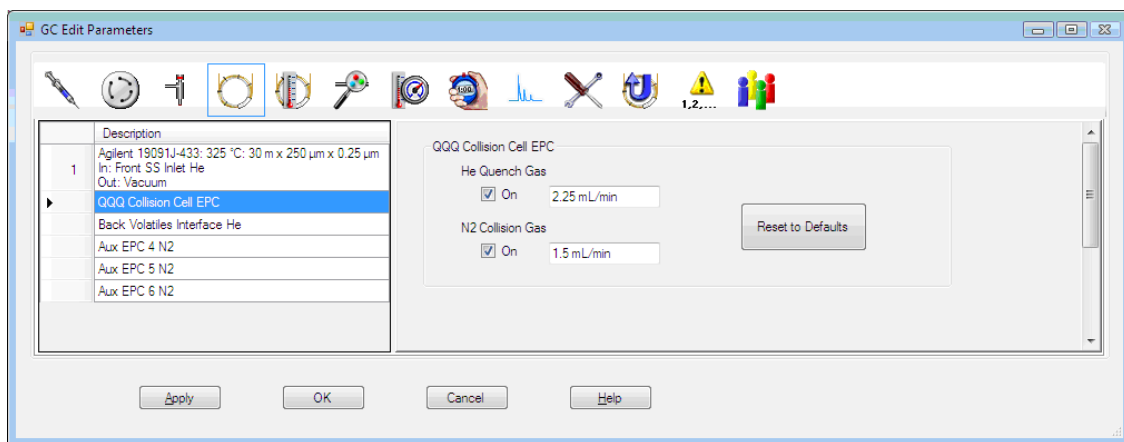

Figure 13 Setting collision cell gas flow rate
- 2 Click the **CFT** icon to display the **CFT** screen. See Figure 13.